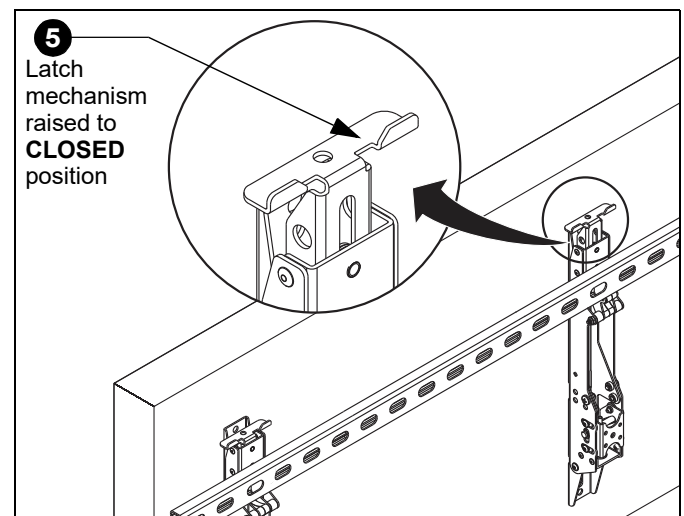

Figure 9
5. Raise the latch mechanism on both interface brackets to **CLOSED** position to lock interface brackets in place. (See Figure 9)